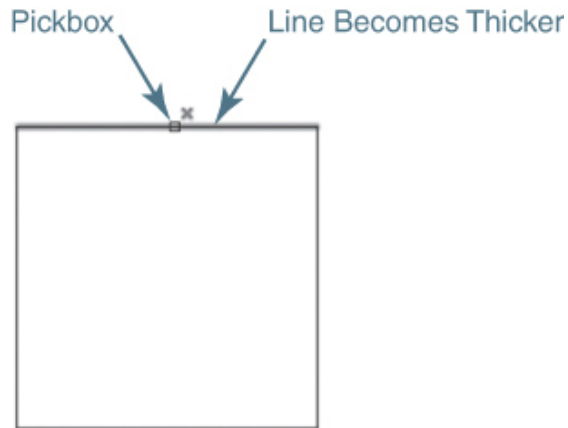

Figure 7-3
The size of the pickbox is used to determine how close you need to be to an object in order to select it. To select an object, it must be within or touching the pickbox. By default, objects that are within the pickbox are previewed by highlighting the objects so that they become thicker and darker or lighter depending on the screen background color (see Figure 7-3). This *selection preview* feature provides you feedback regarding what object will be selected before you pick with your mouse so that you don't pick the wrong object unintentionally.
- 3 Draw a 2 × 2 square similar to the one shown in Figure 7-3 using the **LINE** command so that the rectangle consists of four separate line segments. *Do not use the RECTANG command!*